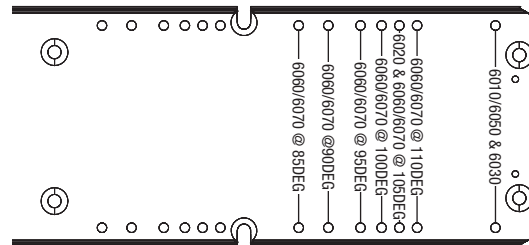
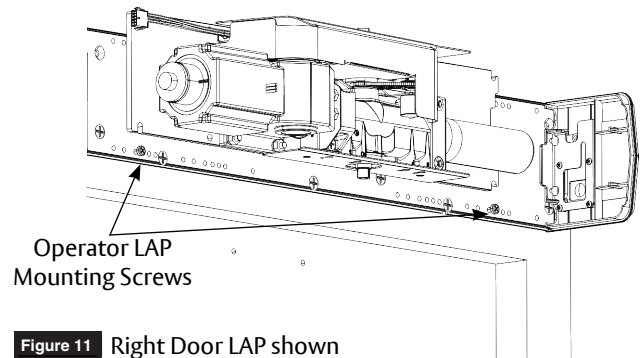

Figure 10
Figure 11 Right Door LAP shown
1. With backplates mounted to frame, use text to locate holes along bottom of backplates that correspond to your specific closer installation -6011/6051 for left door and 6061/6071 plus open angle for right door. (Figure 10)
2. Insert two (2) 1/4-20 x 1/2" Phillips pan head screws on each backplate into appropriate engraved locations. Leave a 5/16" minimum gap between backplate and underside of screw head.
3. On each backplate, orient LAP so spring tube of closer is pointed toward closest hinge edge of frame. Slide each LAP over two (2) screws and tighten. (Figure 11)
- When properly oriented, spring tube is at bottom on left hand backplate (Figure 11) and at top on right hand backplate.